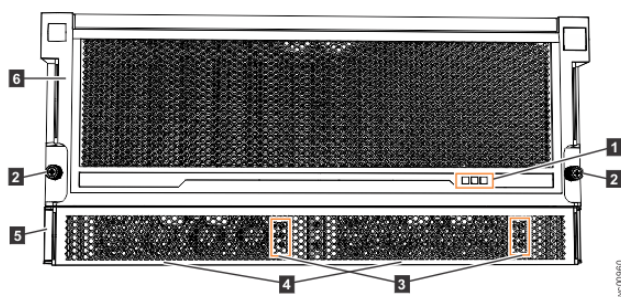
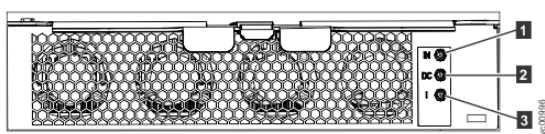

Figure 155. LEDs on the front of the expansion enclosure
Figure 156. LEDs on the front of a power supply unit
As Figure 155 on page 201 shows, the front of the 5U expansion enclosure contains LEDs for the display panel (1) and for each of the power supply units (3).
The 5U expansion enclosure contains two PSUs (4 in Figure 155 on page 201) that are accessible from the front of the enclosure. Each PSU has its own a set of LEDs, as shown in Figure 156 on page 202.